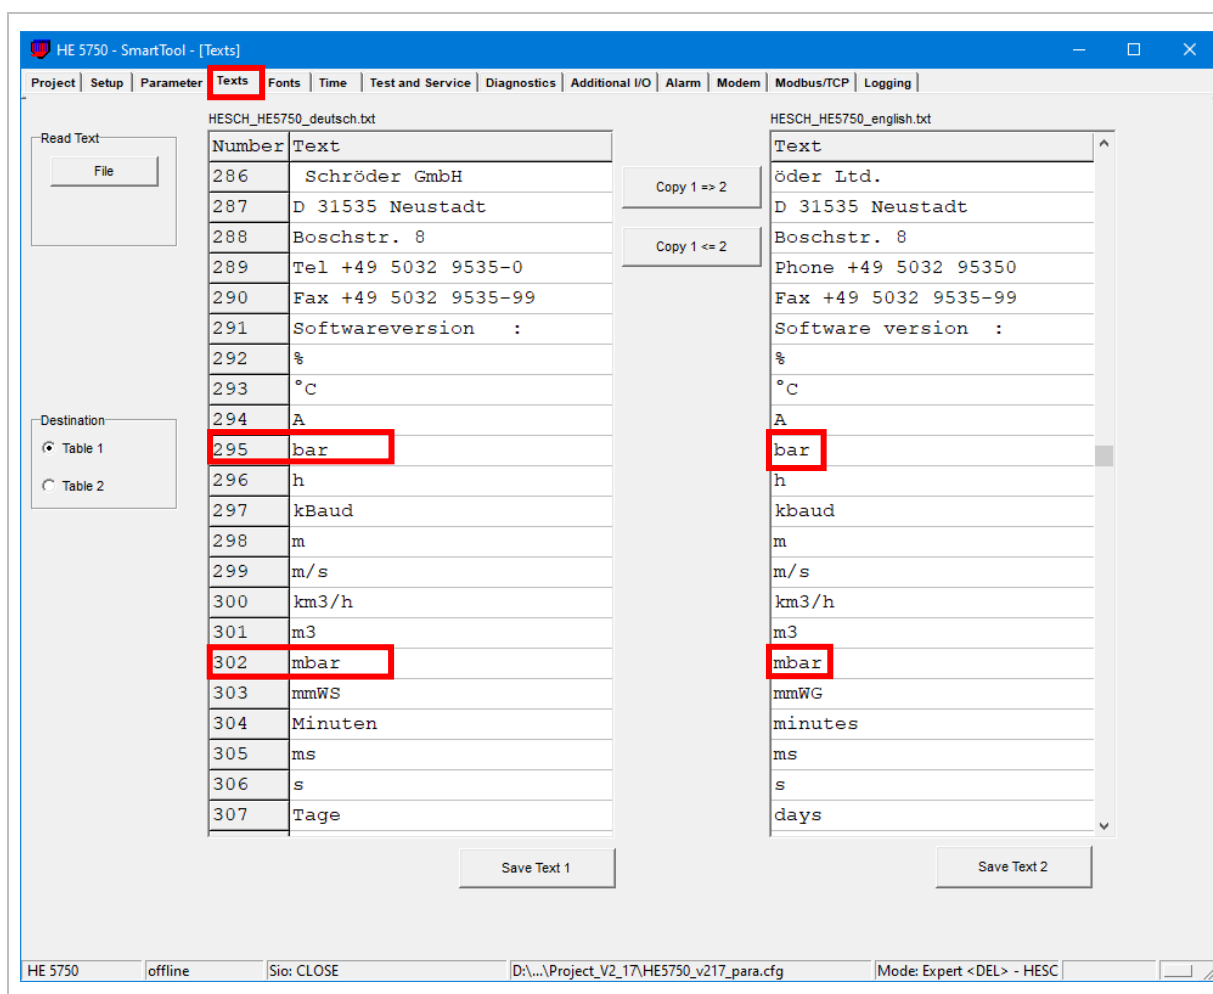

Figure 16. Screen in 'SmartTool' for changing the units
- System pressure, e.g. bar or psi ¹ (see *Figure 16*, line 295).
- Differential pressure, e.g. bar or iwg ² (see *Figure 16*, line 302).